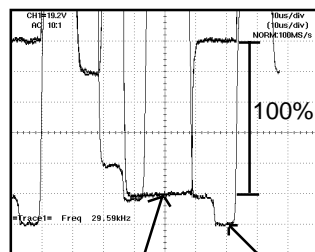

Fig. 2-2
9. Press the VOL. UP/DOWN button on the remote control until the red color level is adjusted to $120 \pm 10\%$ of the white level. **(Refer to Fig. 2-2)**